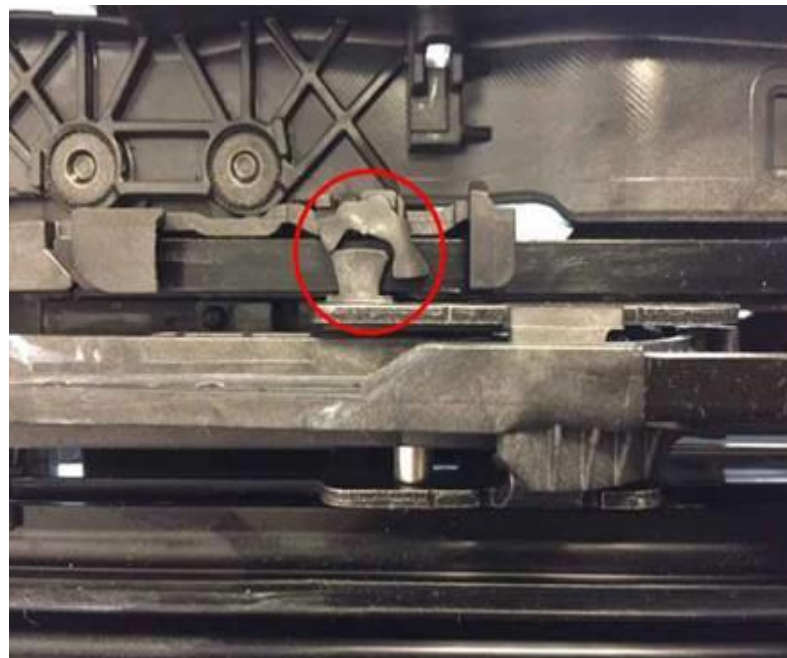

Figure 4. The part that causes noise.
5. In the next picture (Figure 4) the cover has been removed to show what causes the noises.